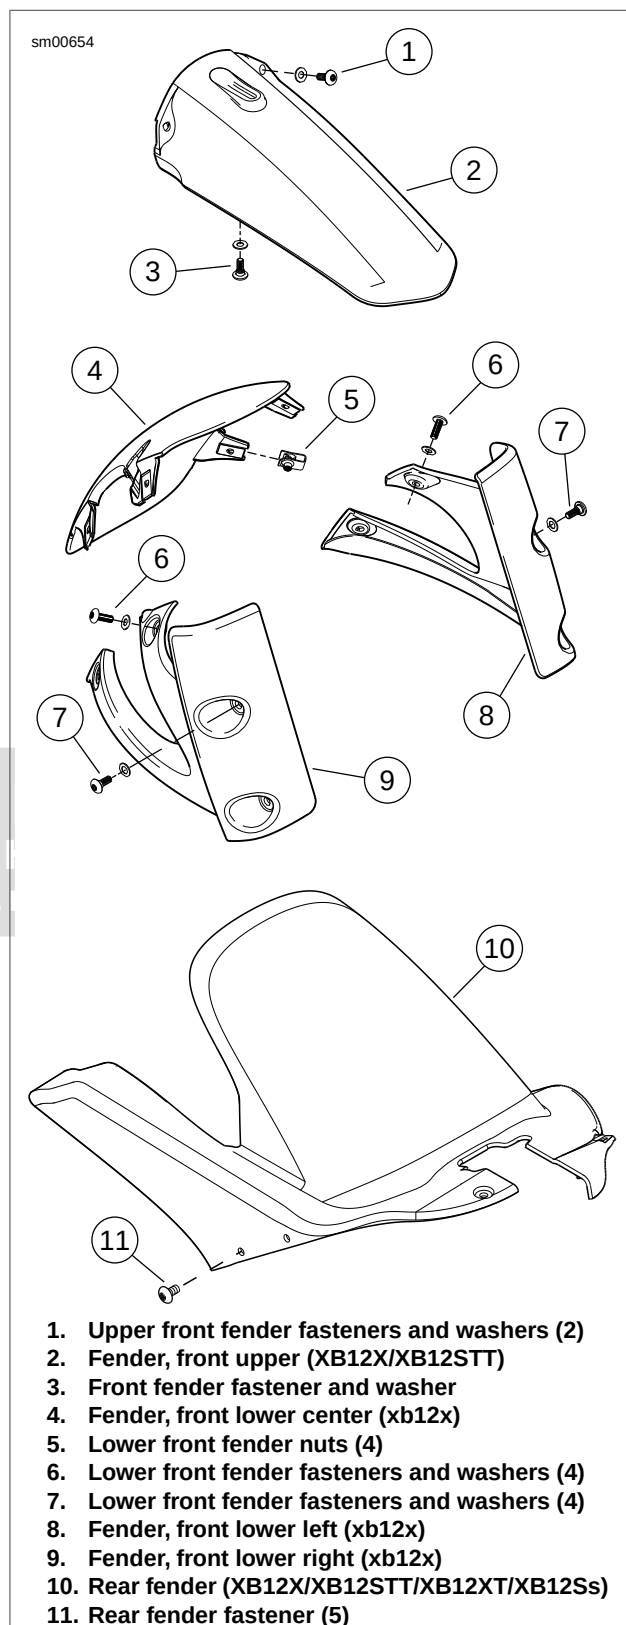

Figure 2-71. Front Fenders: XB12X/XB12STT and Rear Fenders: XB12X/XB12XT/XB12STT/XB12Ss
1. See Figure 2-71. Remove fasteners and washers (1) securing the upper front fender (2) to lower triple clamp.
2. Remove fastener and washer (3) from headlight assembly. Carefully remove front fender (2).
1. See Figure 2-71. Align front fender (2) to fender mounts on lower triple clamp, apply LOCTITE 271 (red) and install front fender fasteners and washers (1) and tighten to 12-36 **in-lbs** (1.4-4.0 Nm).
2. Install fastener and washer (3) into headlight assembly and tighten to 36-48 **in-lbs** (4.0-5.4 Nm).
1. See Figure 2-71. Remove fender fasteners (11).
2. Remove rear fender (10).
1. See Figure 2-71. Align rear fender to the swingarm.
2. Install rear fender (10) with fasteners (11).
2. Remove fastener and washer (3) from headlamp assembly. Carefully remove upper front fender (2).
1. See Figure 2-71. Align upper front fender (2) to fender mounts on lower triple clamp and install upper front fender fasteners and washers (1) and tighten to 12-36 **in-lbs** (1.3-4.0 Nm).
2. Install headlamp fastener and washer (3) and tighten to 36-48 **in-lbs** (4.0-5.4 Nm).